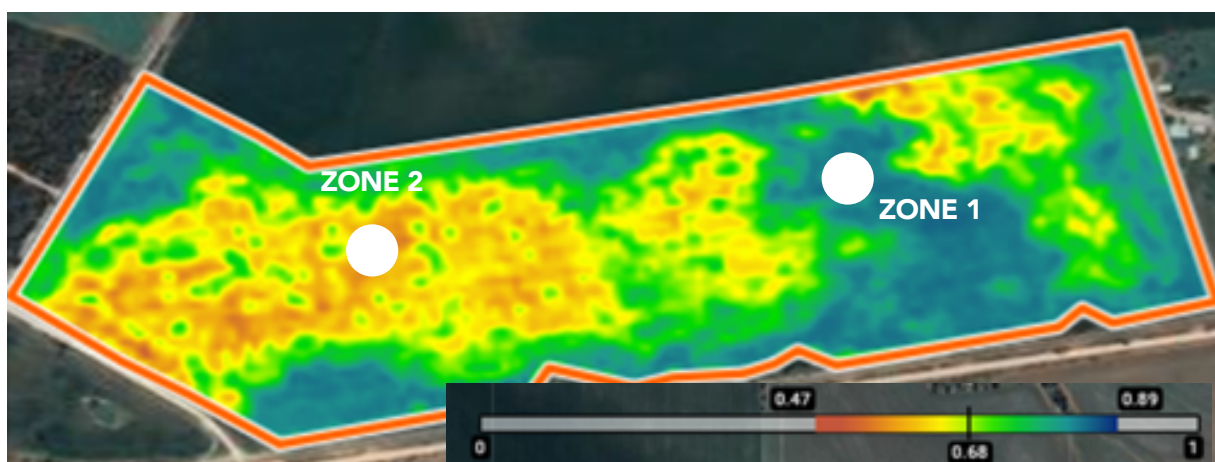

Figure 1. Paddock NDVI imagery with two production zones highlighted.
Satellite-based NDVI imagery from previous growing seasons, which indicates biomass density and condition, was used to identify two production zones (1 ha area) within the paddock: a high production zone (Zone 1) and a low production zone (Zone 2) (Figure 1). Soil tests prior to seeding indicated phosphorus (P) deficiency was highlighted in Zone 2 (Table 1). Phosphorus fertiliser test strips were implemented across both production zones at three rates: Nil, grower standard rate and double rate (0P, 18P, 36P). Profile N values were moderate and enough to support early crop growth. The crop was top-dressed with a 50:50 split of urea (42N) and sulfate of ammonia (21N) at 60 kg/ha, providing 25 kg and 12 kg N/ha respectively in early August.